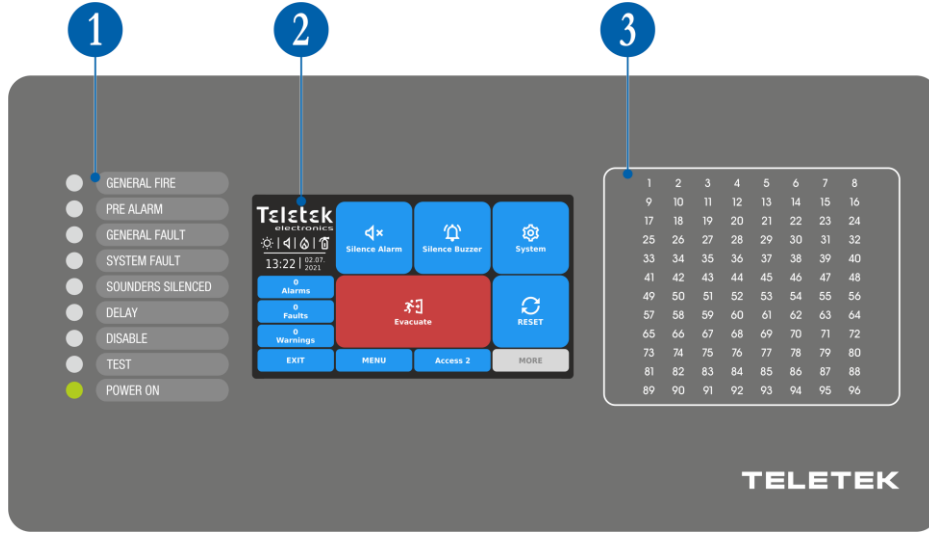

Figure 12
The front panel of iRIS4 presents detailed information of the current system status (1) and activated zones (3) via LED indication. The operation, control and programming of the panel is via the 5 inch TFT screen (2) – Figure 12.